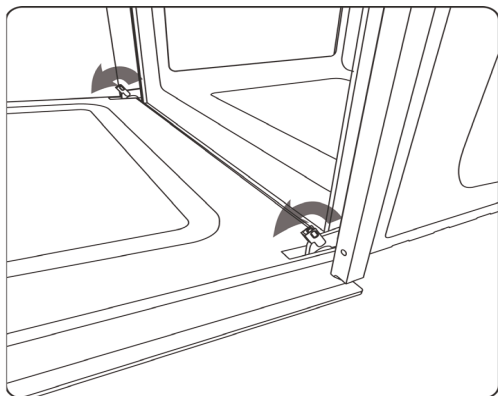

fig.10
- Lift the two levers indicated in figure 10 ;